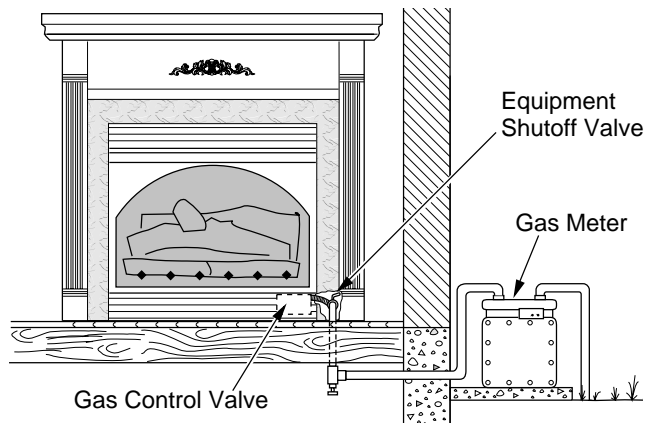

Figure 22 - Checking Gas Joints for Natural Gas
- Check all joints from gas meter to equipment shutoff valve for natural gas or propane/LP supply to equipment shutoff valve for propane/LP (see Figures 22 and 23, page 14). Apply noncorrosive leak detection fluid to all joints. Bubbles forming show a leak.
- Check all joints from equipment shutoff valve to gas control valve (see Figures 22 or 23, page 14). Apply noncorrosive leak detection fluid to all joints. Bubbles forming show a leak.